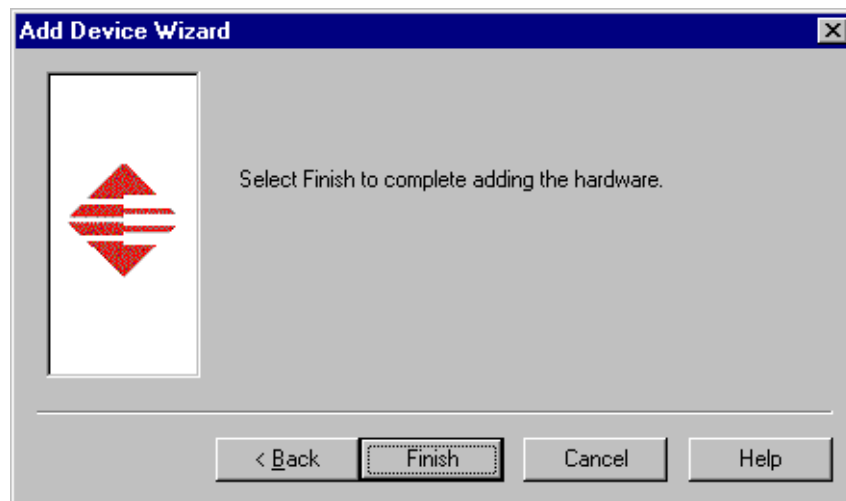

Figure 8. Finish the driver installation.
12. Click Finish to close the Add Devices Wizard (see Figure 8) and open the Device Properties dialog box.